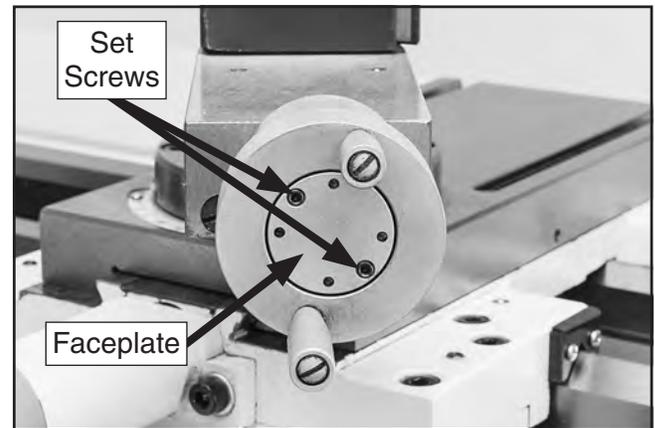

Figure 107. Compound rest backlash adjustments.
2. Loosen set screws on compound rest faceplate several turns (see **Figure 107**).